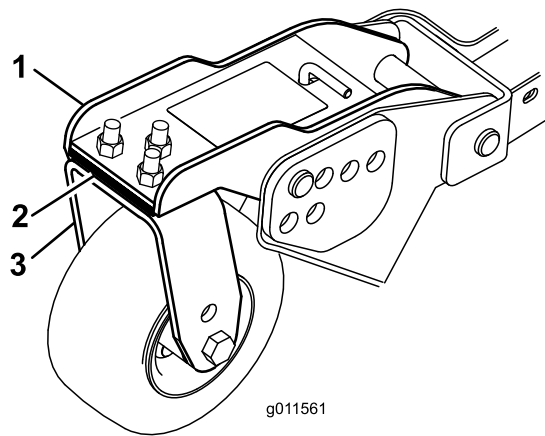

Figure 35
Rotate the blade of each spindle until the ends face forward and backward. Measure from the floor to the front tip of the cutting edge. Adjust the shims on front caster arm(s) to match the height-of-cut decal (Figure 35). For the outside blade spindle only, refer to Adjusting the Mower-Deck Pitch \(page 66\).
3. If the inside edge of the side mower deck is too high relative to the outside edge of the front mower deck, remove a shim from the bottom of the front, inside caster arm on the side mower deck (Figure 35).